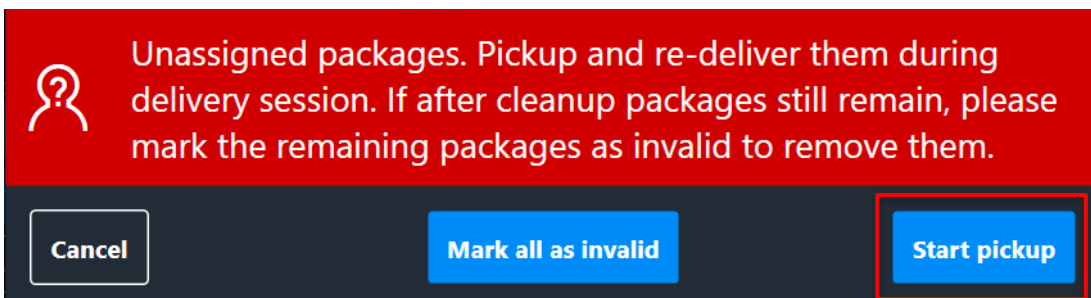

Figure 54: Unassigned package dialog
- d. Tap **Start pickup**. See Figure 54.
The Unassigned Packages dialog opens, see Figure 54.
4. Tap **Start pickup**. See Figure 54.